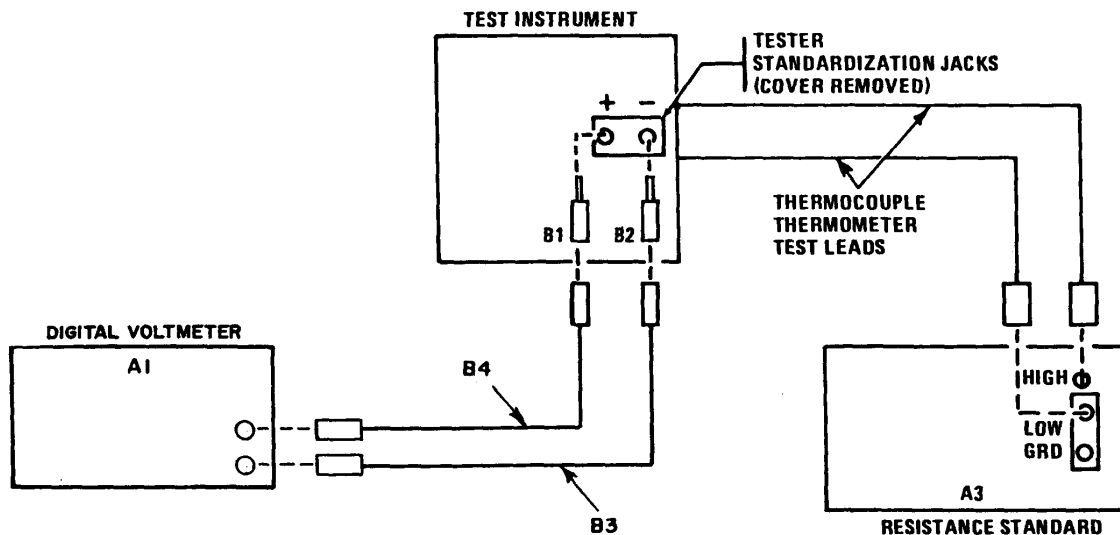

Figure 2. Thermocouple thermometer - equipment setup.
- (1) Remove TI TESTER STANDARDIZING ONLY cover.
- (2) Connect equipment as shown in figure 2.
- (3) Set TI RESISTANCE and VOLTAGE selector switch to THERMOCOUPLE BENCH TEST 8 OHMS.
- (4) Adjust resistance standard (A3) for 17 OHMS.
- (5) Adjust TI COARSE and FINE rheostats for full-scale (red line) indication on TI voltmeter.
- (6) Set TEMPERATURE selector switch to -50 on IRON-CONSTANTAN (degrees) C outer scale. If digital voltmeter (A1) does not indicate between -3.53 and -3.61 mV dc, perform **b** below.
- (7) Repeat technique of (4) through (6) above for switch positions listed in table 6. Digital voltmeter will indicate within limits specified.